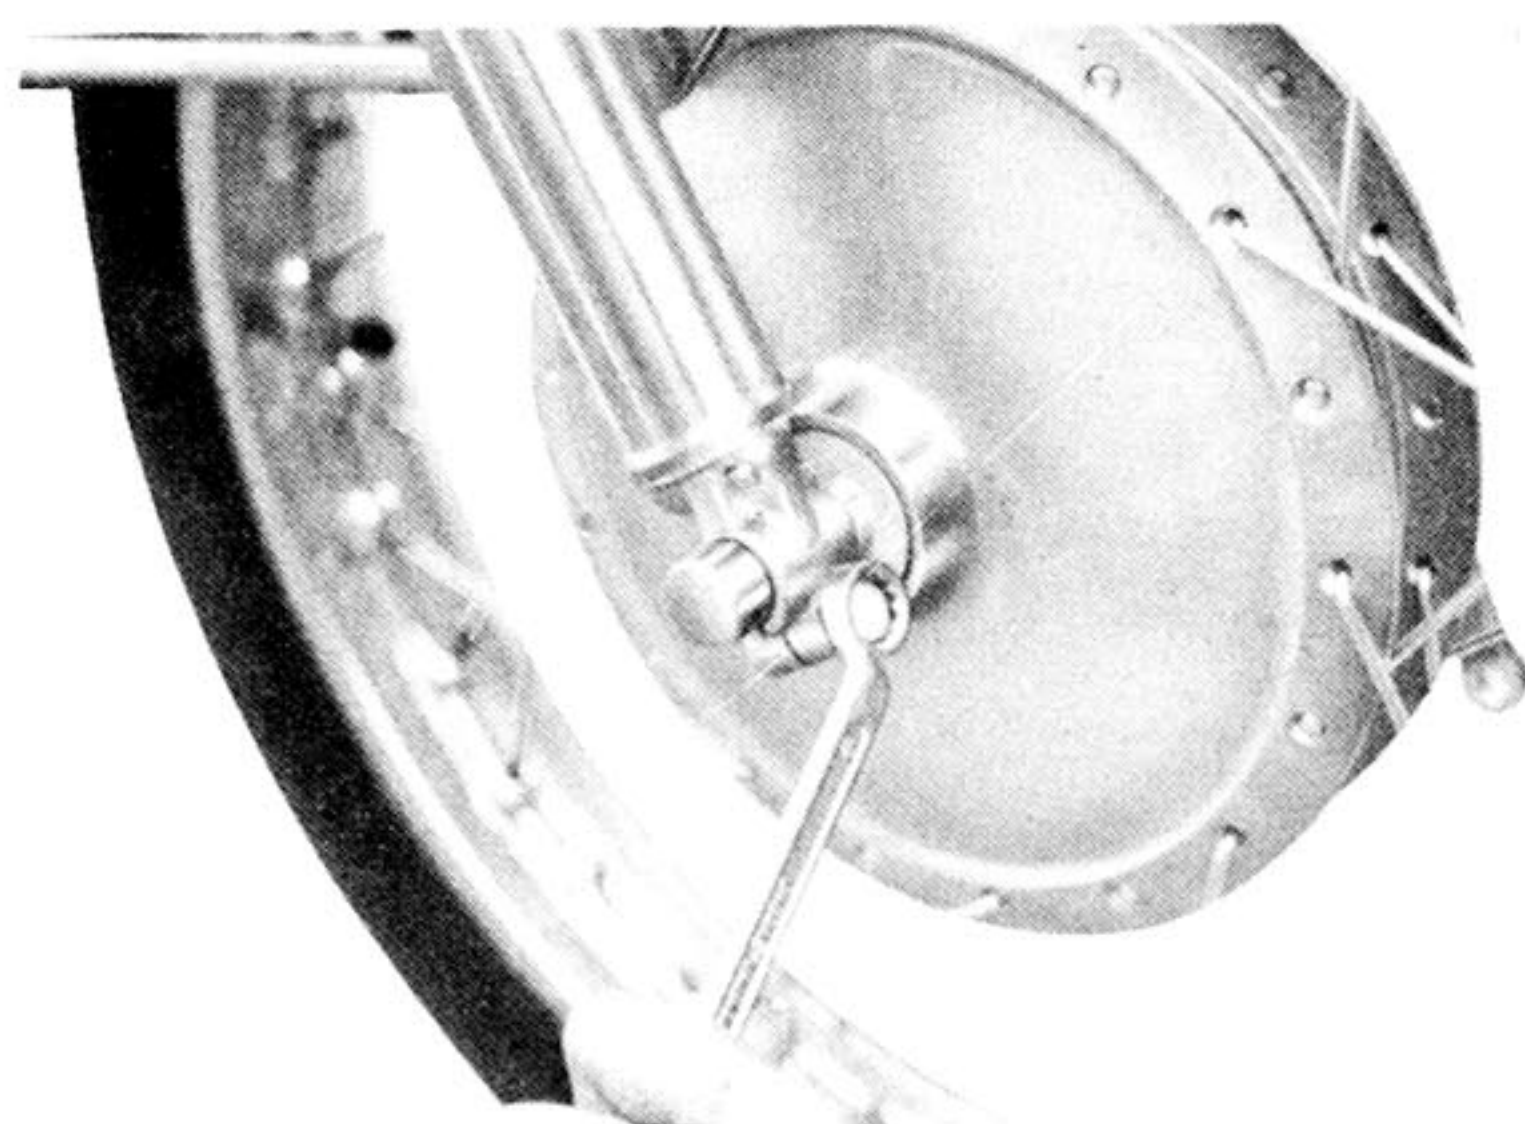

Fig. 5-1-4
(3) Loosen the front wheel shaft lock bolt (Fig. 5-1-4)